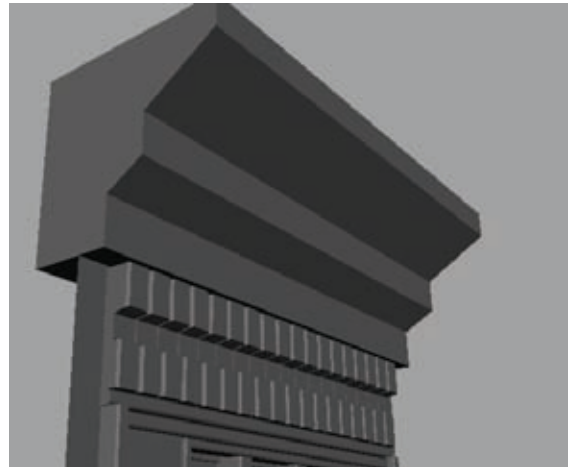

Figure 5.25
11. Select the topmost face again and extrude it up about 2 or 3 units. You should have something similar to Figure 5.25, a ledge that demarks the boundaries of the roof.